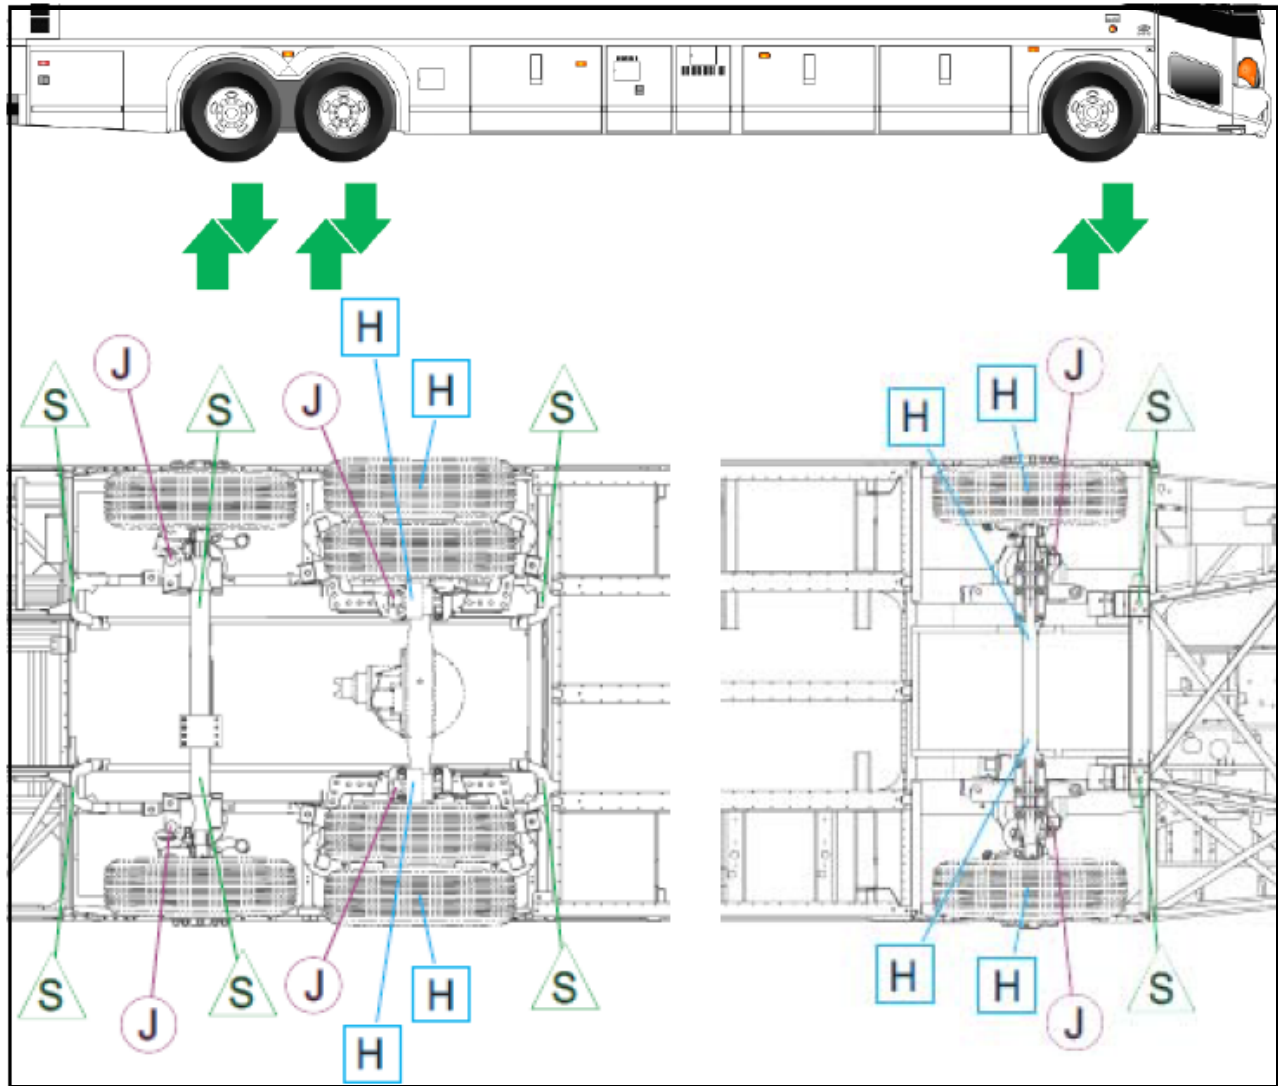

Figure 1.
5. Lift the coach to desired work height. Position safety stands underneath the coach in only the specified locations shown in Sections 3F and 3G in the MCI D Series Maintenance Manual (as shown in Figure 1).
Item	Figure 1 Description